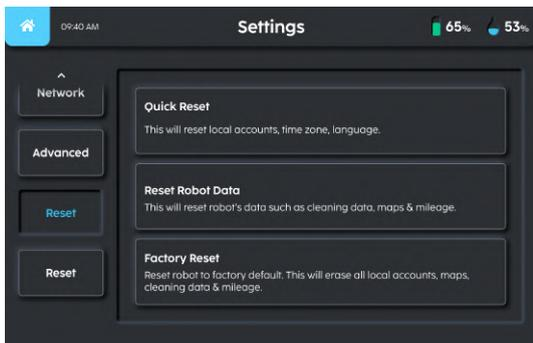

FIGURE 7-12
2. Select the correct Reset function necessary (**Fig. 7-12**).